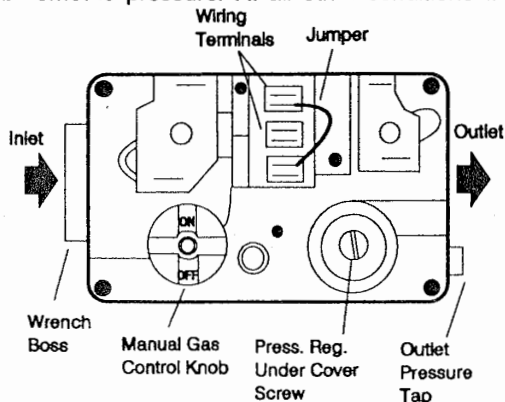

FIGURE 23 - GAS VALVE (WHITE RODGERS 36E98)
3. Refer to Figure 23 for location of pressure regulator adjustment cap and screw on main gas valve.